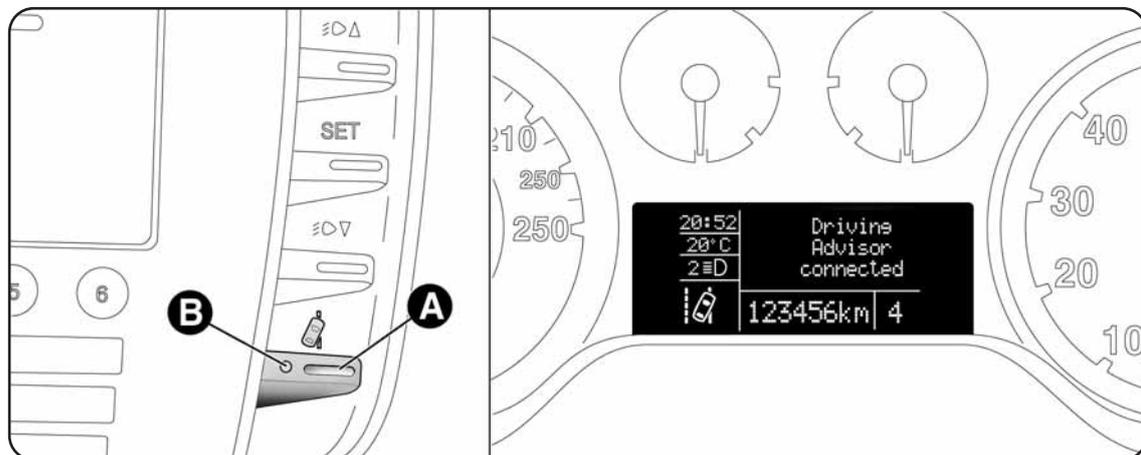
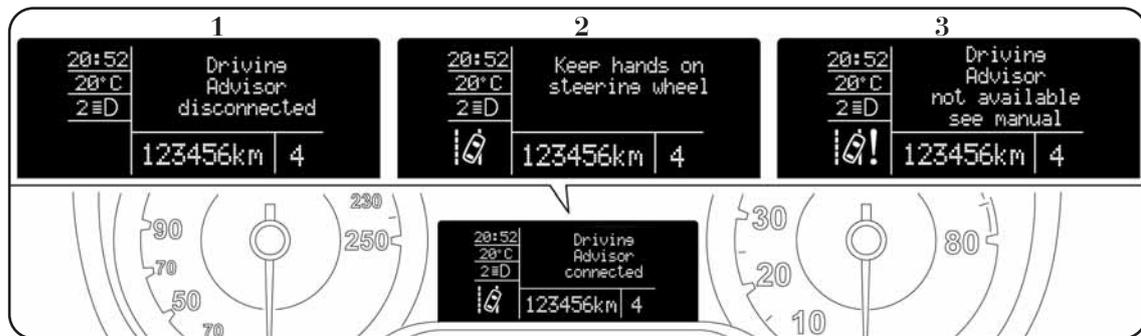

fig. 68
fig. 69
The system is not active when the vehicle is started. It is only activated when button A-fig. 68 in the dashboard is pressed. The LED in the button lights up to confirm that the system has been switched on plus a dedicated warning message in the instrument panel display. Once it is turned on the system will recognise the operating conditions and this is signalled to the driver by the LED located in the button flashing and the symbol  in the amber coloured panel in the instrument panel display flashing too. Once the system has recognised the operating conditions, it becomes active. Therefore: the  icon in the display switches off and the LED on the button remains on constantly.
The system can be deactivated by pressing button A-fig. 68 in the dashboard. Confirmation that the system has been switched off is given by the LED in the button and the message 1-fig. 69 in the instrument panel display going out.
The system can be switched off in automatic mode (therefore it must be activated again to use it). The driver is advised that the system has been turned off automatically by three consecutive acoustic signals and the message 1 – fig. 69 in the instrument panel display after the following situations:
- the driver does not keep their hands on the steering wheel (indication 2-fig. 69 is shown on the instrument panel and a buzzer sounds until the driver places their hands back on the wheel. This is considered a dangerous condition and the system is automatically deactivated);
IMPORTANT The system cannot be activated if the driver has previously selected the sports driving mode. The impossibility of using the system will be communicated to the driver by three consecutive beeps and by the displayed message 1 in fig. 69.
In the case of a malfunction, the system notifies the driver of the fault with message 3-fig. 69 in the instrument panel display plus a buzzer.